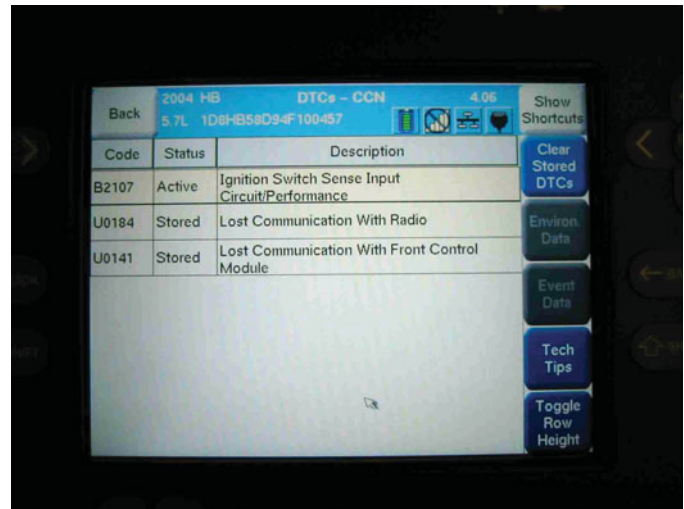

FIGURE 12-22 A Honda scan display showing a B and two U codes, all indicating a BUS-related problem(s).
A factory scan tool or an aftermarket scan tool equipped with enhanced original equipment (OE) software is needed to access many of the BUS messages. ● **SEE FIGURE 12-22.**